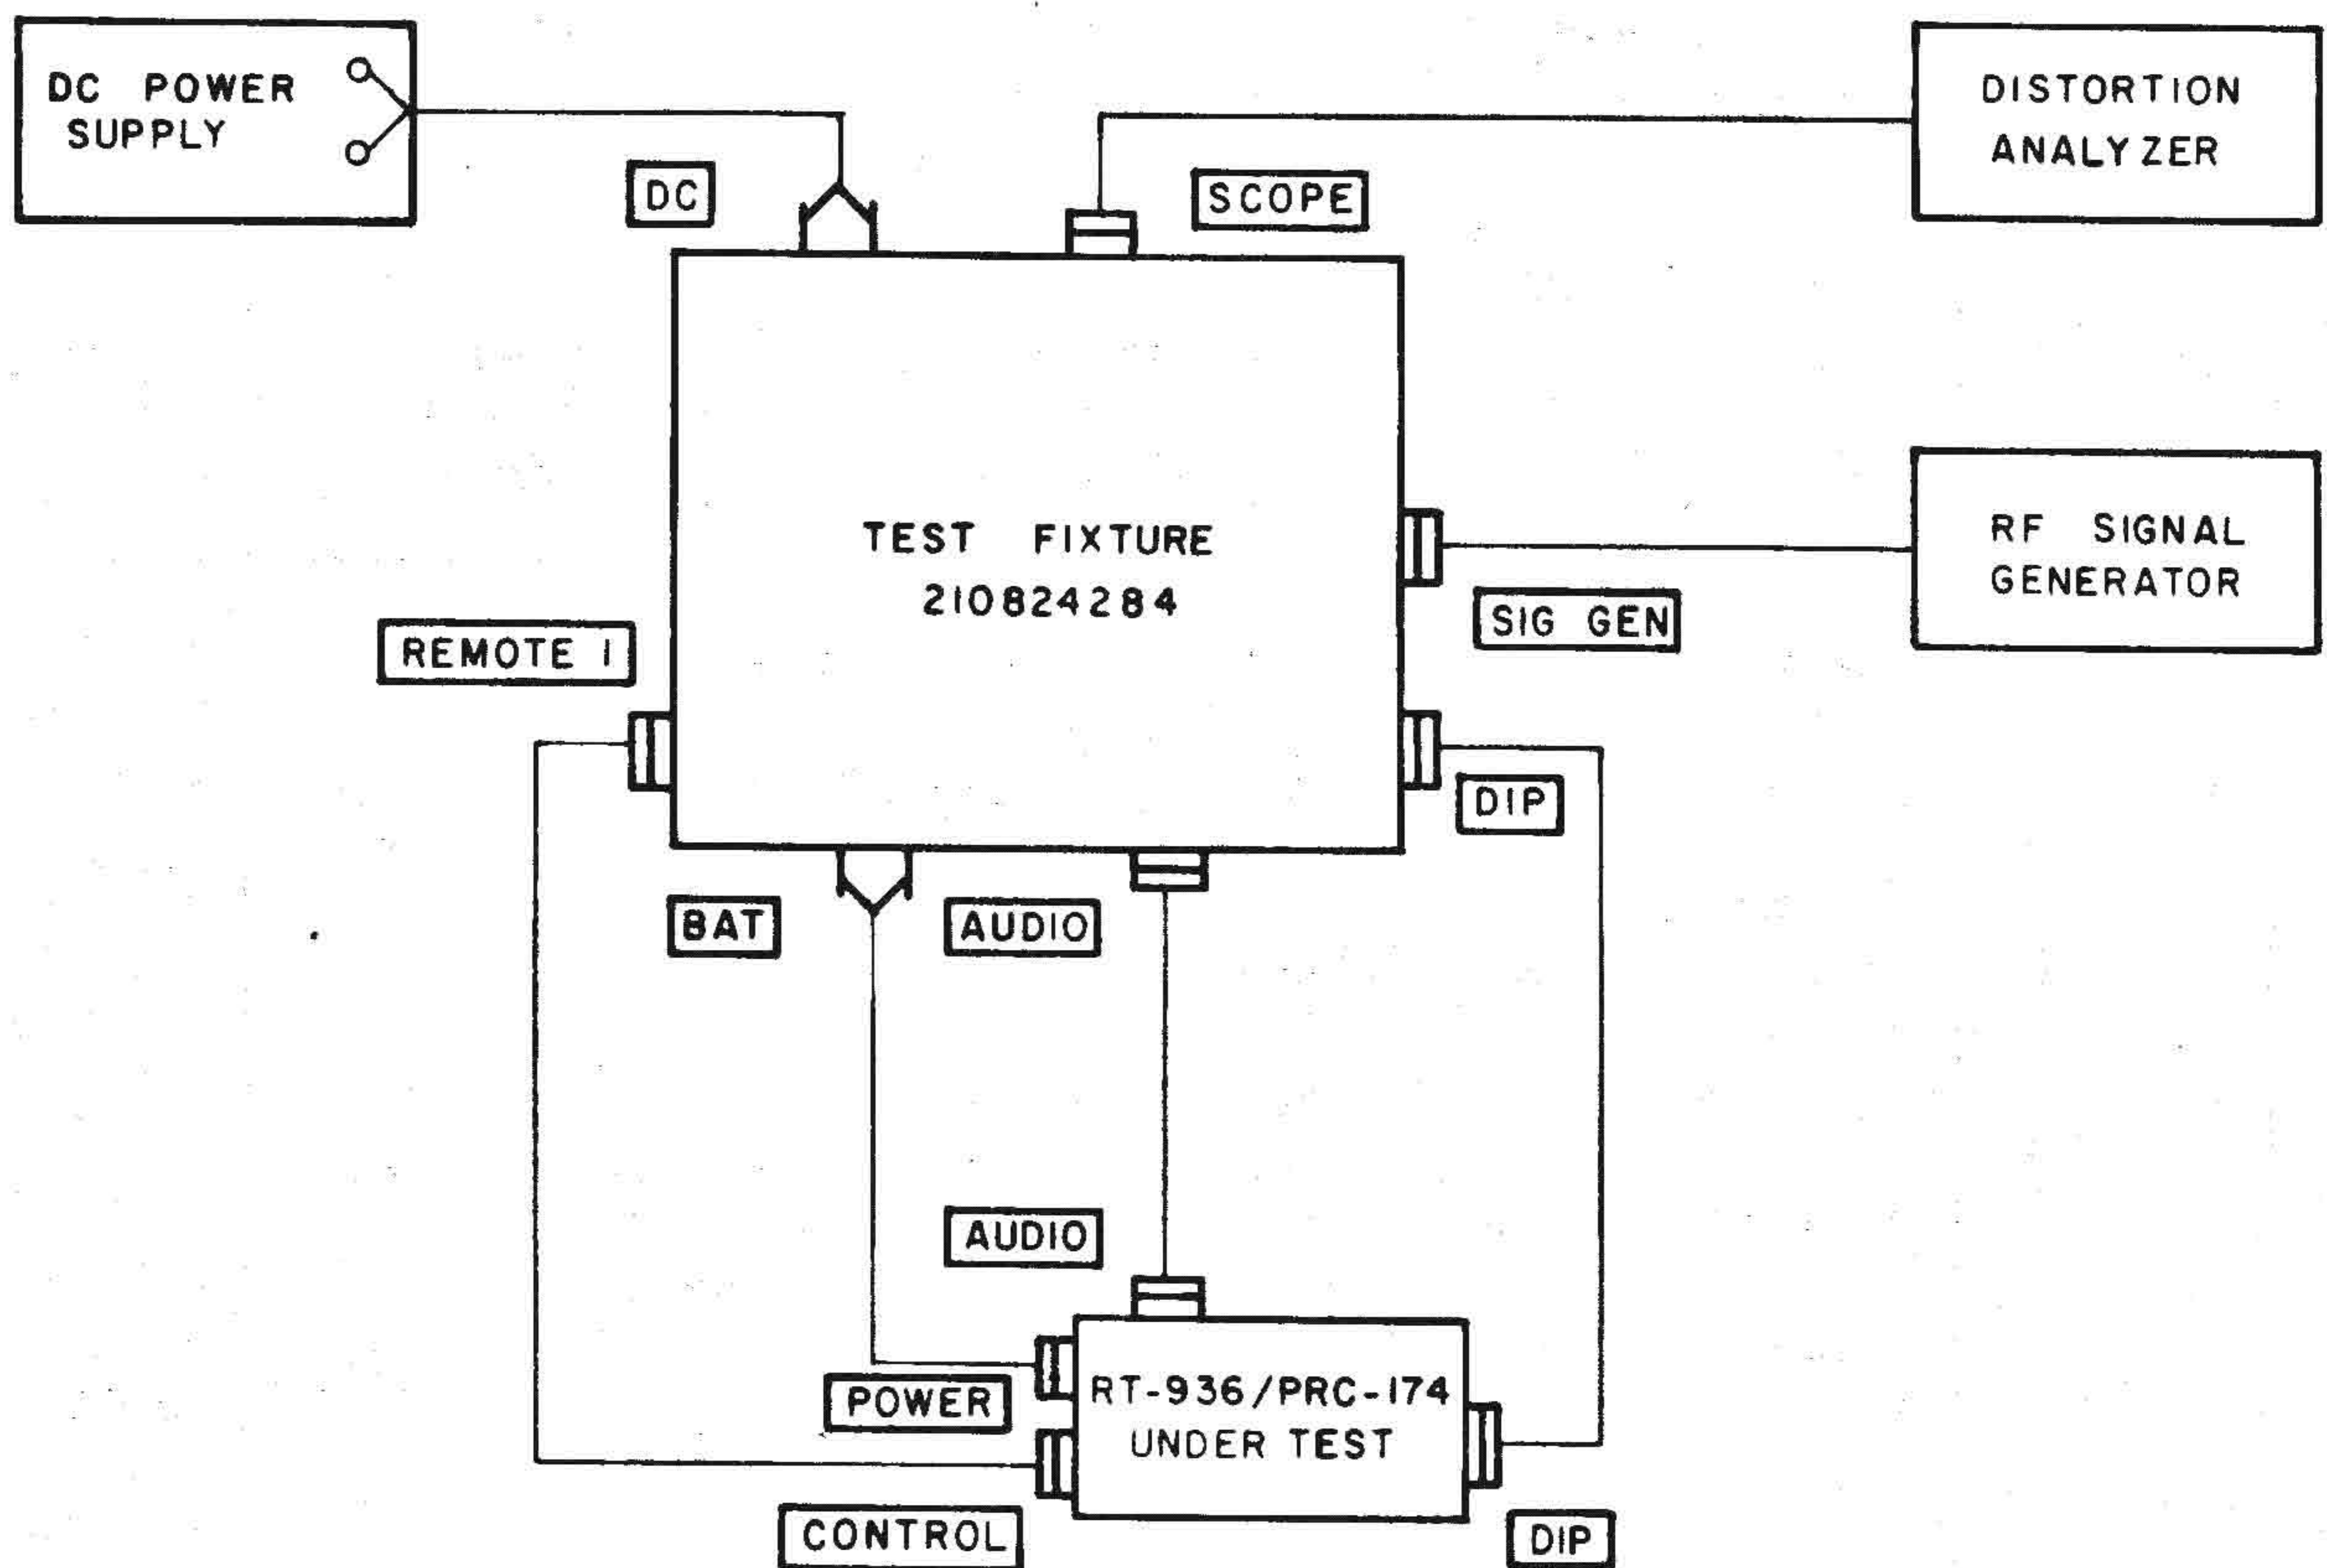

Fig. 4-9. Receiver section, test setup
| 1 | Receiver | Operation Switch : ON MODE : SSB R/T : R USB BAT : IND LOCAL/REM: REM PTT : R PA/CBP : PA MN/BP : MN ALC/1kHz VAR : 1 kHz VAR WHIP/DIP : DIP FREQUENCY : 2.0000 SCOPE : PHONE | (1) Assemble the test setup shown in fig. 4-9. (2) Tune the RF signal generator to the (test frequency +1 kHz), and adjust it to obtain a CW test signal of 0.7 microvolts. (3) Set the MODE selector on the test fixture to SSB. (4) Adjust the VOLUME control, located on the front panel of the test fixture, until the distortion analyzer indicates an audio output of 0.775V. (5) Use the distortion analyzer to measure the ratio of (signal + noise + distortion) to (noise + distortion). (6) Repeat steps (2) through (5) above at each of the following test frequencies: 2.4000 8.6666 18.5500 3.1111 9.7777 19.6660 3.9999 10.8888 20.7000 4.2222 11.9999 22.8800 5.3333 12.1111 24.9990 6.4444 13.2222 26.1000 7.5555 14.3222 28.2600 16.4400 29.9999 | N/A N/A N/A At least 10 dB |
| 2 | Receiver Gain Alignment NOTE This alignment shall be carried out only if sensitivity requirements are not met. | Same as 1 above, except: FREQUENCY:2.0000 MHz | (1) Use the test setup shown in fig. 4-9. (2) Tune the RF signal generator to 2.001 MHz and adjust its output to 0.7 microvolts. (3) Adjust the VOLUME control to obtain 0.775V on the distortion analyzer. (4) Trim coil L19 in module MIXER 1A2A1 (fig. 4-14) to obtain a SINAD of at least 10 dB. | N/A N/A N/A N/A |
| 3 | Audio Output Power | ON/OFF : ON MODE : SSB R/T : R/USB BAT : IND LOCAL/REM: REM PTT : R PA/CBP : PA MN/BP : MN ALC/1kHz VAR : 1 kHz VAR WHIP/DIP : DIP FREQUENCY: 16.0000 SCOPE : PHONE | (1) Use the test setup shown in fig. 4-9. (2) Tune the RF signal generator to 16.0010 MHz and adjust it to obtain a CW test signal of 1.0 microvolts. (3) Turn the VOLUME control located on the front panel of the test fixture fully clockwise and measure the audio output level, using the distortion analyzer as a voltmeter. (4) Turn the VOLUME control on the test fixture fully counter-clockwise and measure the audio output level. (5) Return the VOLUME control to the fully clockwise position. | N/A N/A At least 2.45V Less than 77mV N/A |
| 4 | Audio Distortion | <p>ON/OFF : ON</p> <p>MODE : SSB</p> <p>R/T : R/USB</p> <p>BAT : IND</p> <p>LOCAL/REM: REM</p> <p>PTT : R</p> <p>PA/CBP : PA</p> <p>MN/BP : MN</p> <p>ALC/1kHz VAR : 1 kHz VAR</p> <p>WHIP/DIP : DIP</p> <p>FREQUENCY: 16.0000</p> <p>SCOPE : PHONE</p> | <p>(1) Use the test setup shown in fig. 4-9.</p> <p>(2) Tune the RF signal generator to 16.0010 MHz and adjust it to obtain a 100 mV CW test signal.</p> <p>(3) Turn the VOLUME potentiometer located on the front panel of the test fixture, until the distortion analyzer indicates an audio output of 2.45V.</p> <p>(4) Measure the distortion of the audio output.</p> <p>(5) Repeat steps (2) through (4) above with RF signals of 16.000350 and 16.002400 MHz.</p> | <p>N/A</p> <p>N/A</p> <p>N/A</p> <p>Less than 5%</p> |
| 1 | Received Signal Level Meter | ON/OFF : ON MODE : SSB R/T : R/USB BAT : IND LOCAL/REM: REM PTT : R PA/CBP : PA MN/BP : MN ALC/1kHz VAR : 1 kHz VAR WHIP/DIP : DIP FREQUENCY: 16.0000 SCOPE : PHONE | (1) Use the test setup shown in fig. 4-9. (2) Tune the RF signal generator to 16.001 MHz and adjust it to obtain a 0.7 microvolt CW test signal. (3) Vary the amplitude of the RF test signal from 3 to 1000 microvolt and record the RF voltage at which each of the solid state display lamps turns on. L1 designates the leftmost lamp, and L5 designates the rightmost lamp. (4) If the required performance is not attained, refer to Table 4-5, Item 2 for adjustment instructions. | N/A N/A <table border="1"> <thead> <tr> <th>Lamp</th> <th>Turn-on Threshold (uV)</th> </tr> </thead> <tbody> <tr> <td>L1</td> <td>3- 10</td> </tr> <tr> <td>L2</td> <td>10- 30</td> </tr> <tr> <td>L3</td> <td>30- 100</td> </tr> <tr> <td>L4</td> <td>100- 300</td> </tr> <tr> <td>L5</td> <td>300-1000</td> </tr> </tbody> </table> N/A. | Lamp | Turn-on Threshold (uV) | L1 | 3- 10 | L2 | 10- 30 | L3 | 30- 100 | L4 | 100- 300 | L5 | 300-1000 |
| 3 | Matching System Operation | ON/OFF : ON MODE : SSB BAT : IND LOCAL/REM: REM R/T : R/T USB PA/CBP : PA FREQUENCY: 2.0000 WHIP/DIP : WHIP ALC/1kHz VAR : 1 kHz VAR PTT : R MN/BP : MN | (1) Use the test setup shown in fig. 4-9. (2) Connect Handset, H-189/GR, to the free AUDIO connector of the RT-936/PRC-174. (3) Set the PTT switch on the test fixture to T. | N/A N/A SSD lamps should light sequentially from left to right and audio beeps should be heard in the earphone at a rate of approximately 1.2 Hz. The indications should stop after matching has been achieved. |